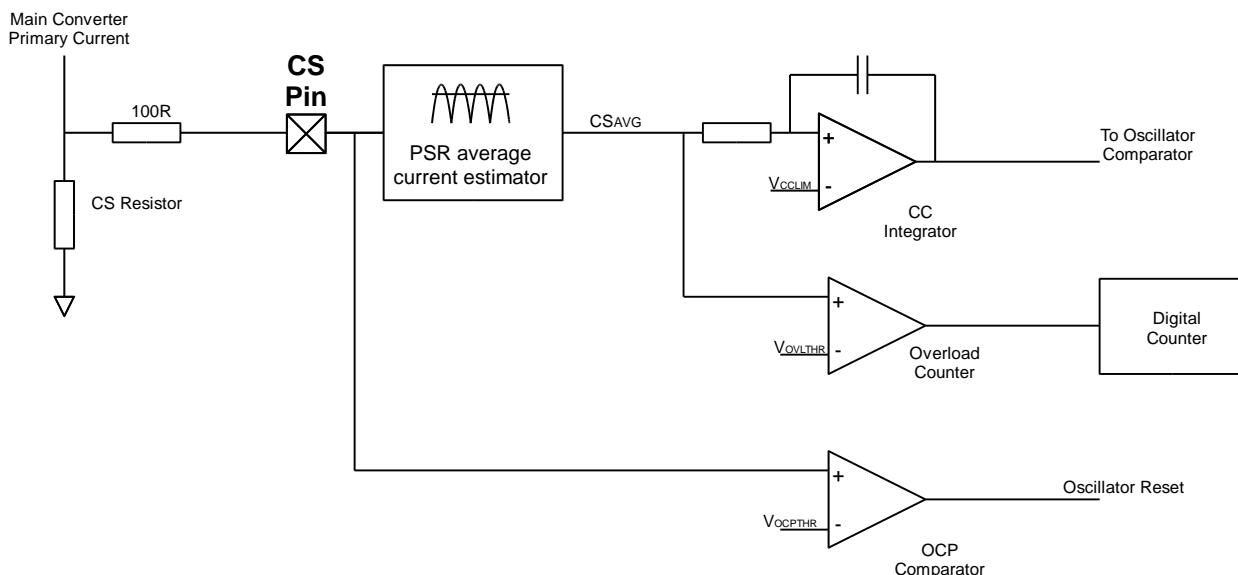

Figure 7: RED1401 Current protection and control circuits
Figure 7 shows the three current protection methods used in the converter:
Shown in figure 7 the signal from the CS pin is divided into two different paths. The bottom path provides peak instantaneous over-current protection (OCP) while the PSR Average Current estimation block provides the current limit (CC) and the average current overload (OVL) information. The voltage on the CS pin is an AC signal biased around GND. Inside the PSR block this signal is processed to provide a voltage proportional to the average converter output current.
The CC limiting circuit is shown in Figure 7. The CC operation is defined by an internally compensated control loop. This provides a system response time of approximately 1ms in a typical SMPS application. The constant current RMS limit, V_{OCLIM} is pre-set to 140mV, referred to the CS pin. This corresponds to 140% of nominal load.